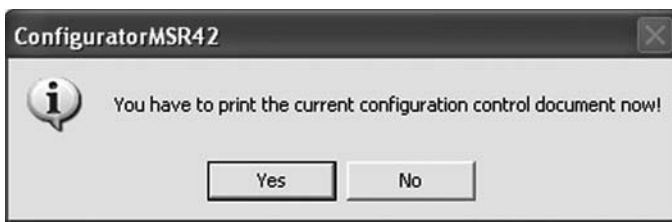

Figure 49: Print Configuration Control Document
14. Print “Configuration control document” (Figure 49).